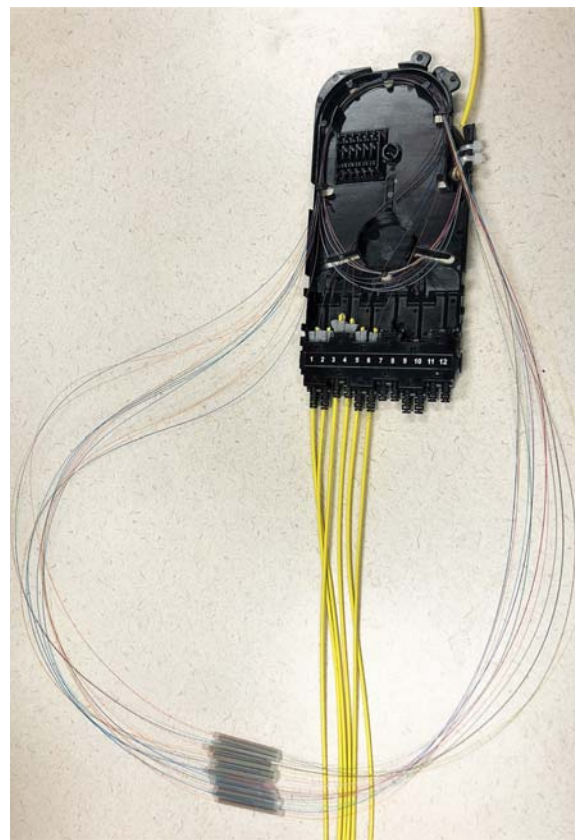

Figure 19. Winding Fibers Back Into Cassette
19. Carefully wind fibers with completed splices back into the cassette. Gather together fibers with completed splices. Individually wind fibers carefully in the cassette (Figure 19).